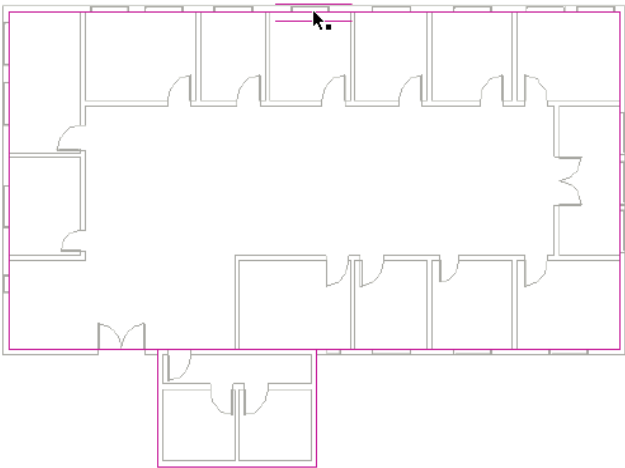

Figure 3-88 The floor boundary sketched using the **Pick Walls** tool
- f. Create the floor using the **Floor** tool, refer to Figures 3-88 through 3-90.
6. Repeat the procedure followed in steps 3 and 4 and sketch the boundary of the floor on other walls, as shown in Figure 3-88.